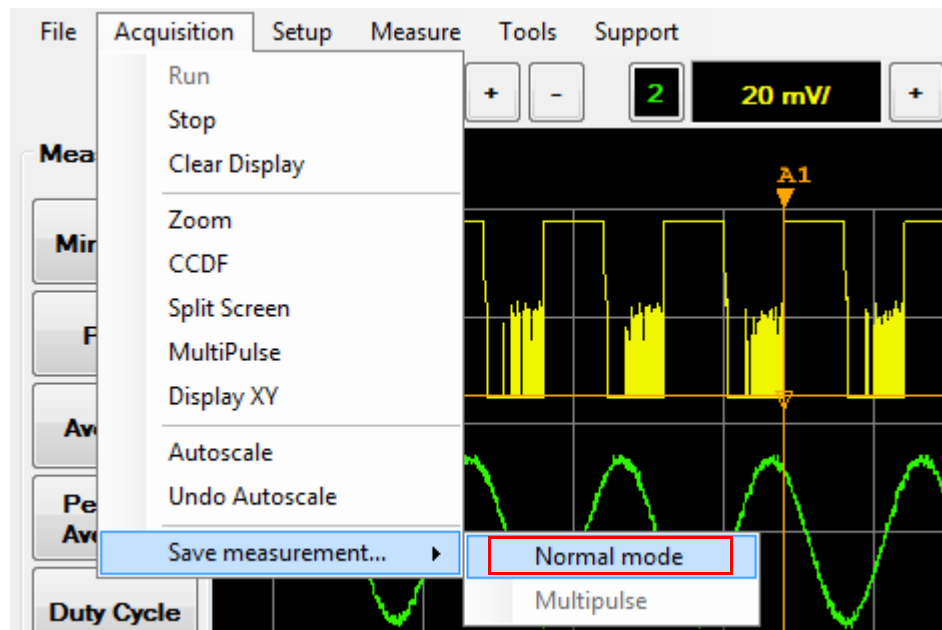

Figure 2-140 Save measurement > Normal mode selection in the Acquisition menu
- 1 Select **Acquisition > Save measurement... > Normal mode** on the toolbar as shown in Figure 2-140.